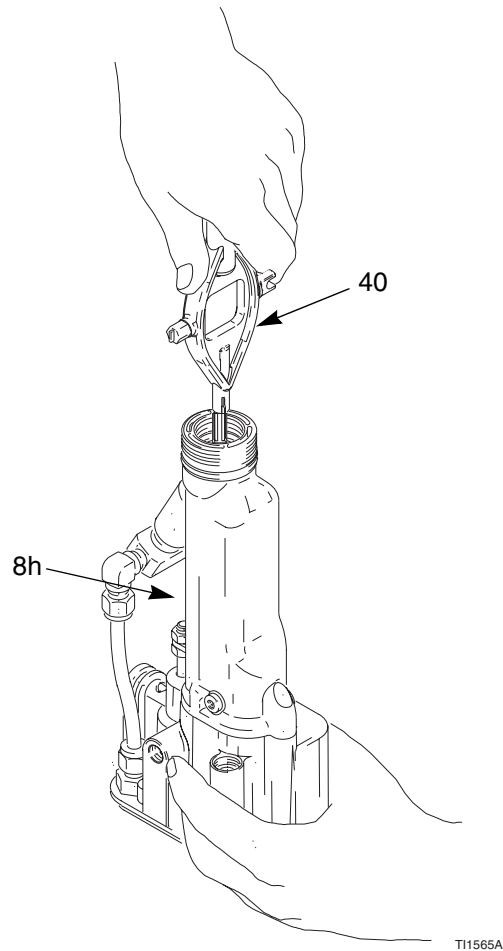

Fig. 22. Electrode Replacement
2. Remove the air cap and nozzle, page 34. Remove the gun shroud (2).
3. Unscrew the electrode (7) with the multi-tool (40). Hold the packing rod end (8h) to prevent it from turning, FIGURE 22.